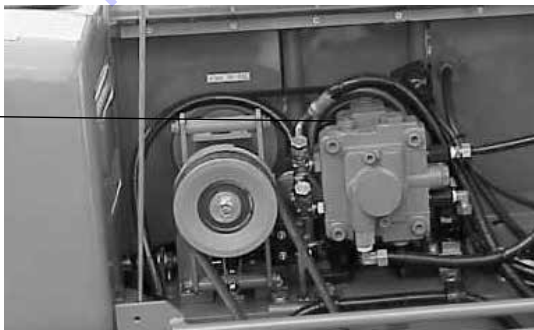

Figure 21. Location of Bypass Valve Bolt
1. If you need to move the roller by pushing it manually once the engine is stopped, loosen bolt of bypass valve on oil pump by one rotation counterclockwise. This will cause the hydraulic brake to disengage and allow the roller to be moved more easily (Figure 21).